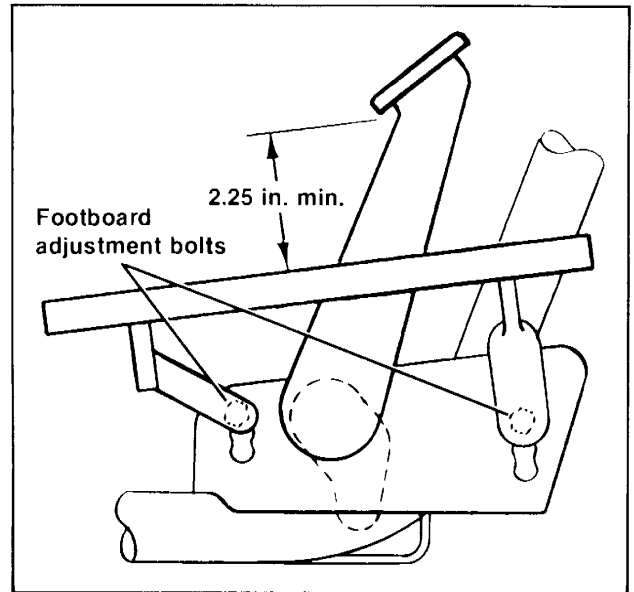

Figure 2-42. Rear Brake Pedal Clearance — FLT
1. See Figure 2-42. After adjusting footboard, check brake pedal clearance as shown. Minimum clearance is 2-1/4 in.